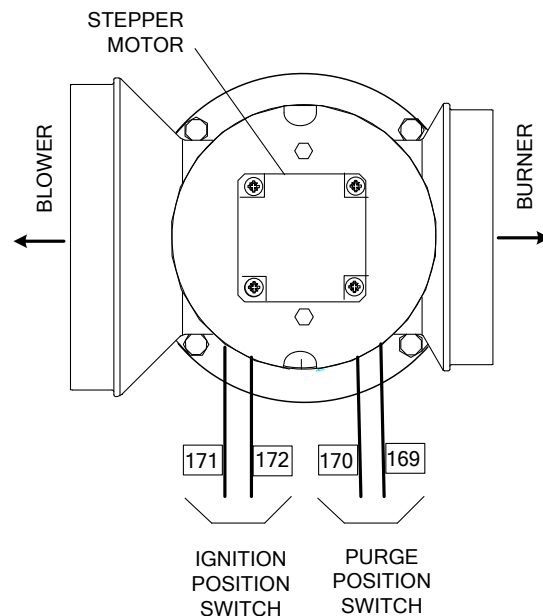

Figure 6.8
3. Remove one of the two wires from the purge position switch (Fig. 6.8) and start the unit.
3. Remove one of the two wires from the ignition position switch (Fig. 6.8) and start the unit.